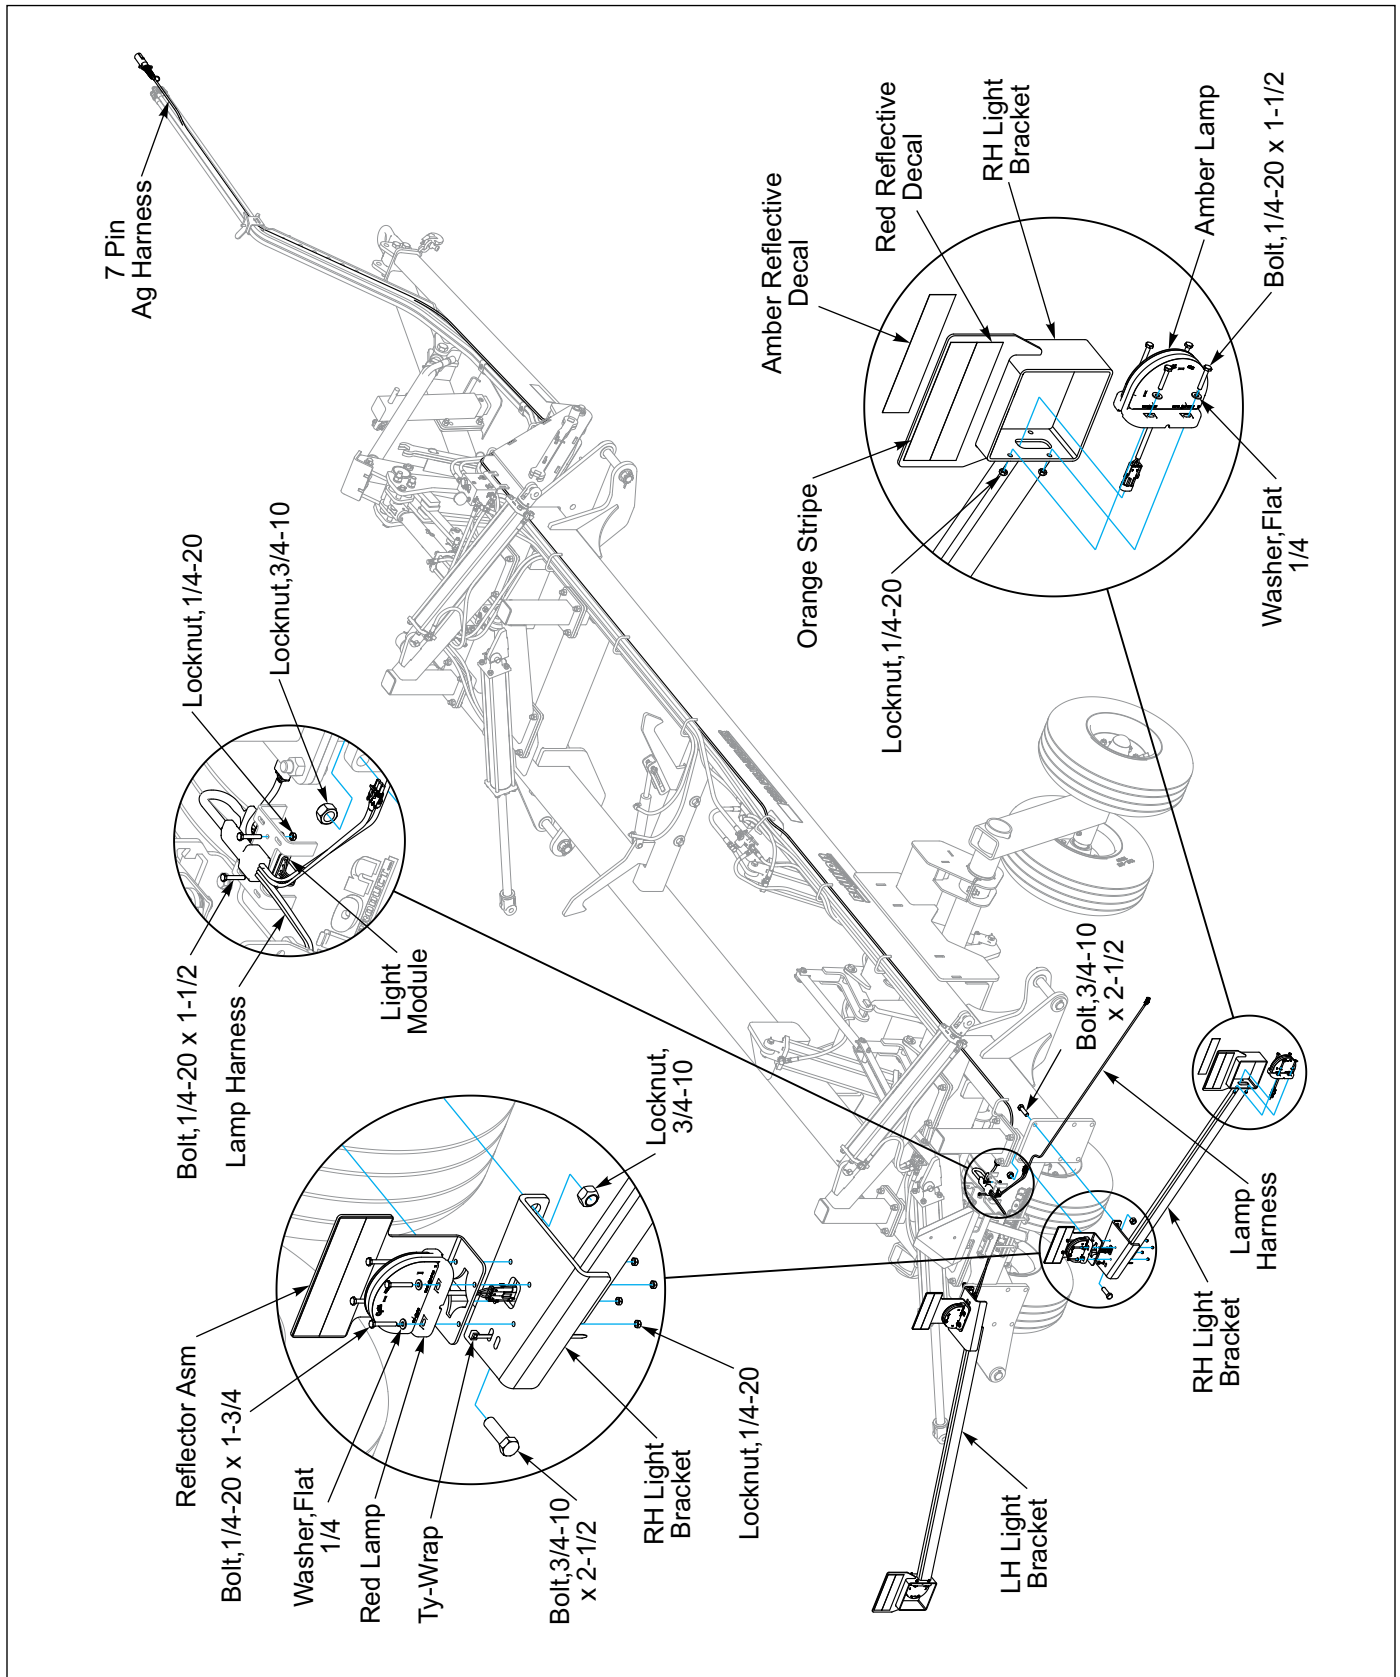

Figure 2-46: Electrical Layout
1. Layout the Lamp Harness, noting that the connectors marked with Green Tape is Right Side and Yellow Tape is Left Side. Route the left side 2 prong connector through the LH Light Bracket. Route the right side 2 prong connector through the RH Light Bracket. **See Figure 2-46.**
7. Plug the 7 Pin Harness into the Flasher Module, then route the harness along the right side of the frame with hoses and secure with Tie Straps. **See Figure 2-46.**